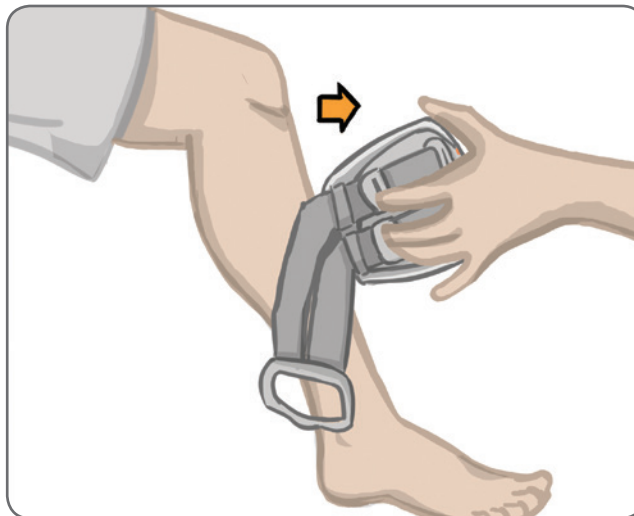

Figure 8-7: Removing the Lower Leg FS Cuff with Captured Electrode Bases
8. Gently remove the lower leg FS Cuff from the leg. See Figure 8-7.